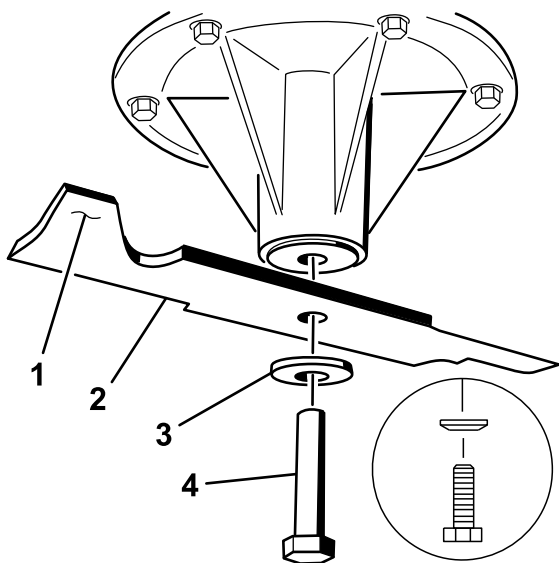

Figure 79
2. Install the blade onto the spindle shaft (Figure 79).
3. Install the curved washer and blade bolt (Figure 79).
Note: The curved washer cone must be installed toward the bolt head (Figure 79).